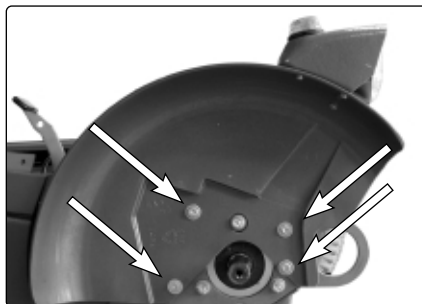

Fig. 1. The shield is held in place with four screws
2. Remove the shields, see Fig. 1.